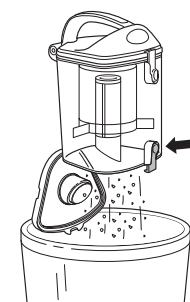

Fig. 19
- 2 Hold the dust cup over a trash receptacle and press the bottom door release button. **(Fig. 19)** Tap gently to empty contents. Press the door shut again until it clicks into place.